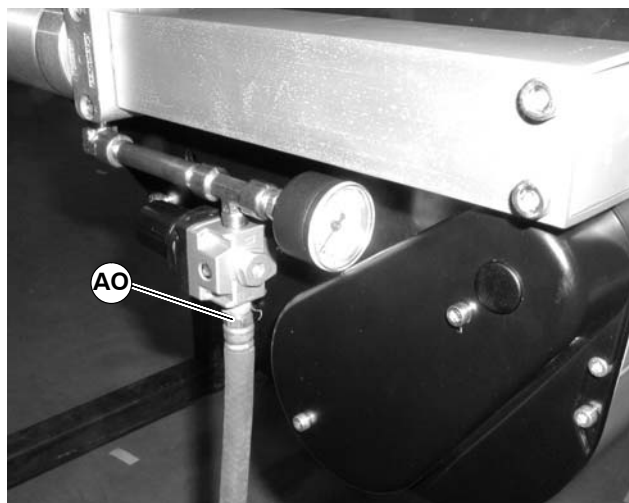

Figure 68
1. Remove air supply and remove hose (AO of Figure 68) from center drive.